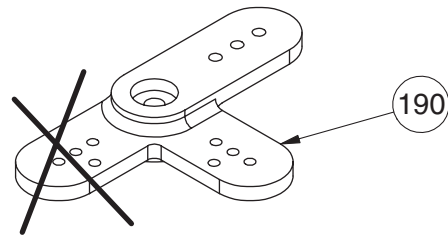

Figure I-11
- ❑ 1. For rotary valve carburetors, you will need to remove the straight, shorter arm of the Throttle Servo Arm (190), as shown in Figure I-11. Cut off the Arm with heavy duty clippers or a Dremel™ hobby tool.